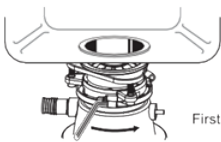

Figure 8
3. Adjust the position of the disposer to ensure that the three hooking points of the lower fastener are hung with the upper fastener of the flange (see Figure 8).